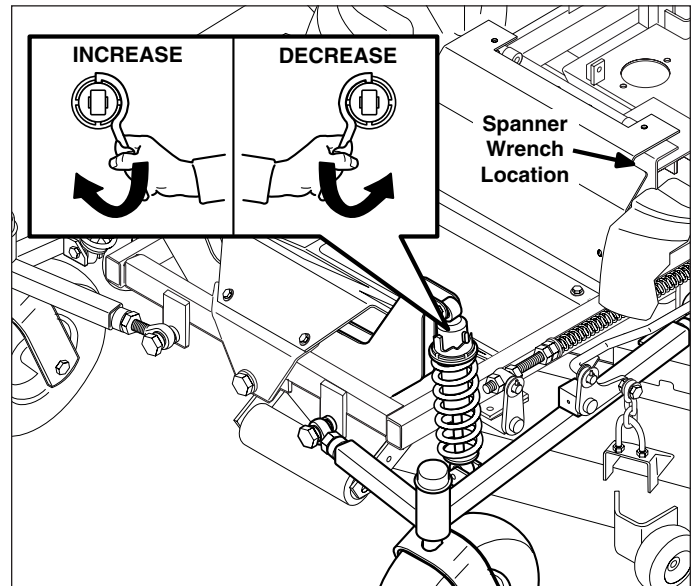

Figure 25. Shock Spring Adjustment
2. See Figure 25. Using the supplied spanner wrench (p/n 22853), insert the tip of the wrench into the notch in the pre-load adjuster. While holding the wrench in place with one hand, turn CLOCKWISE to increase the pre-load, turn COUNTER-CLOCKWISE to decrease the pre-load. Make sure both shocks are set to the same amount of pre-load.